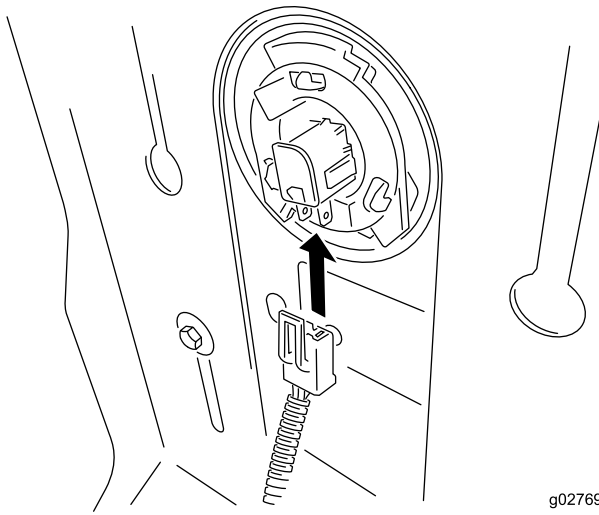

Figure 9
2. Connect the seat switch (Figure 9).